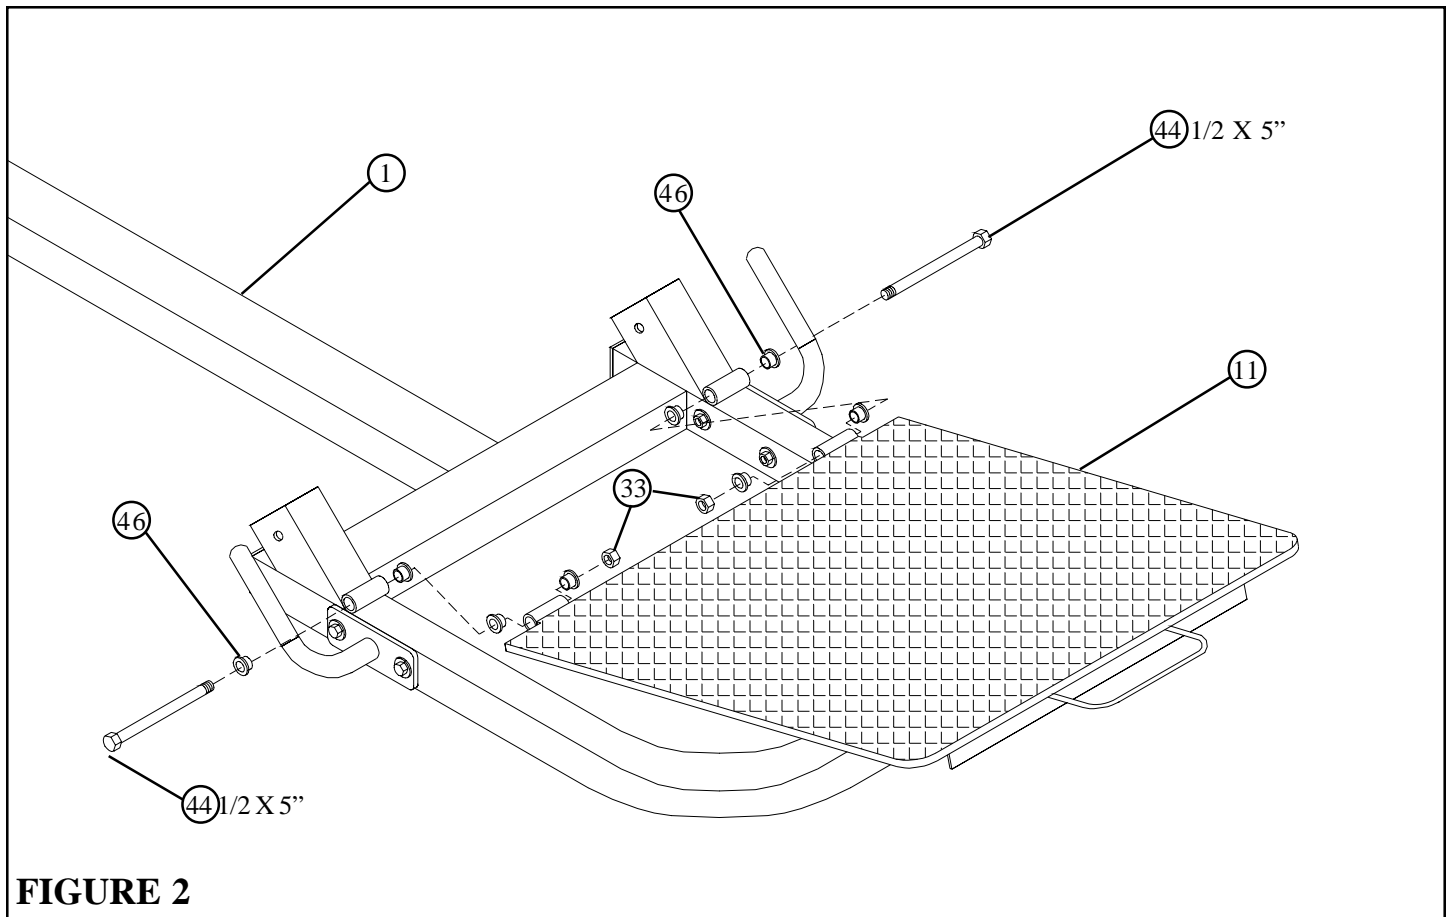

FIGURE 2
- Insert four 1/2" FLANGE BEARINGS (46) into the BUSHINGS on the BASE (1), and four 1/2" FLANGE BEARINGS (46) into the BUSHINGS on the PLATFORM (11) as shown in FIGURE 2.
- Assemble the PLATFORM (11) between the BUSHINGS on the BASE (1) as shown in FIGURE 2 using two 1/2 X 5" BOLTS (44) and two 1/2" LOCK NUTS (33). (**TIGHTEN THE CONNECTION ENOUGH TO REMOVE THE PLAY, YET ALLOWING THE PLATFORM TO ROTATE FREELY**)